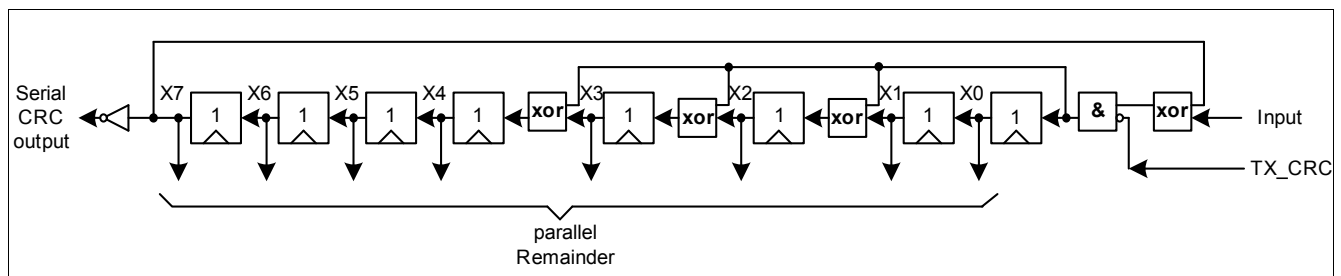

Figure 25 Fast CRC polynomial division circuit
- Generator polynomial: $X^8+X^4+X^3+X^2+1$, but for the CRC generation the fast-CRC generation circuit is used (see Figure 25).